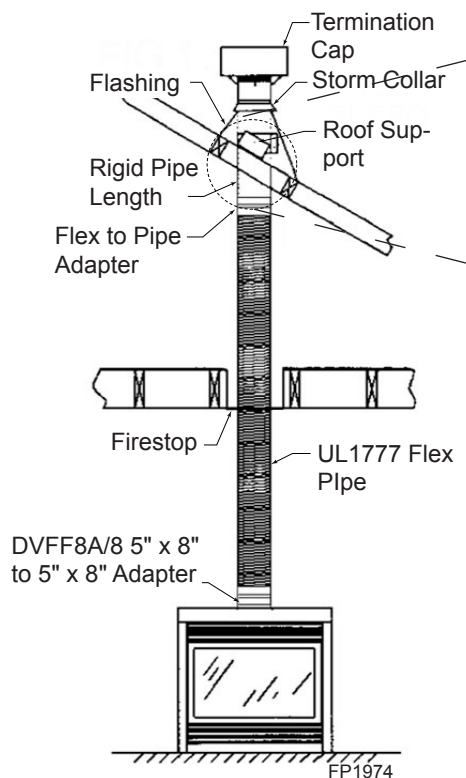

**Figure 36 -
2. The flex adapter starter kit (DVFF8A/8) is used to attach flex venting to the appliance starting collar. It includes 5" inner and 8" outer adapter rings. *Figure 36*
- B. Installing the outer flex pipe. *Figure 36*